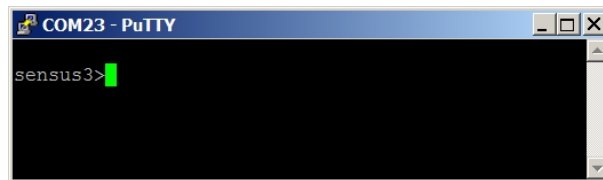

Figure 6: Open terminal window for module configuration via serial line
Click on „Open” button in „PuTTY” program and open the terminal window. After pressing of „ENTER” key there will appear a command prompt „sensus3” which announces that the module is ready to be configured (see figure 6).
- the command must be entered only when a prompt for command appears in front of the cursor mark (colored or flashing little square); the prompt is either „sensus3” or „mon” format (see figure 6);